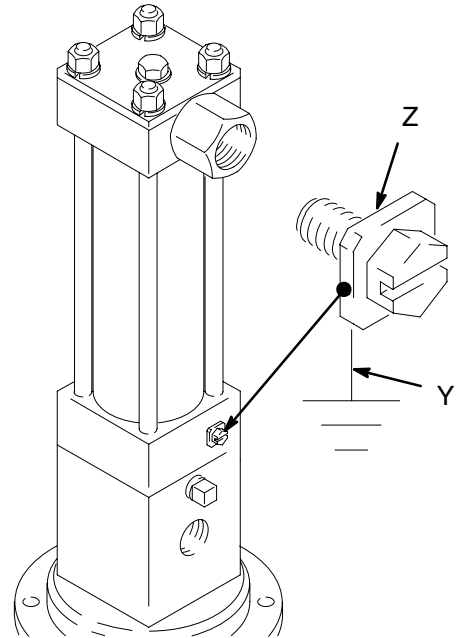

Fig. 3
- *Pump:* Use ground wire and clamp as shown in Fig. 3. To order a Grounding Wire and Clamp Kit, order Part No. 222011.